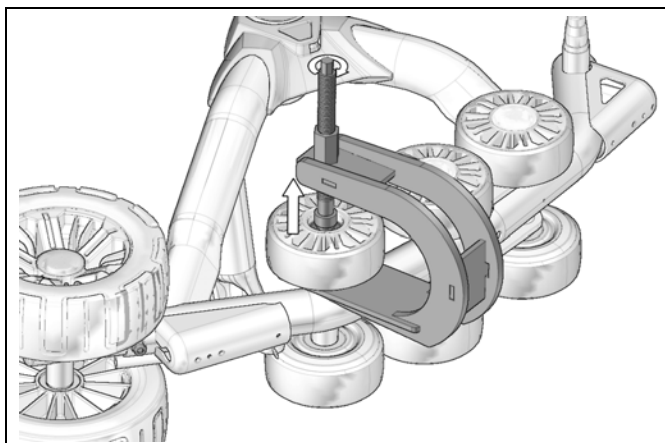

Figure 36
- Place extractor under wheel as shown on Figure 36. Then turn the threaded rod to remove the wheel.